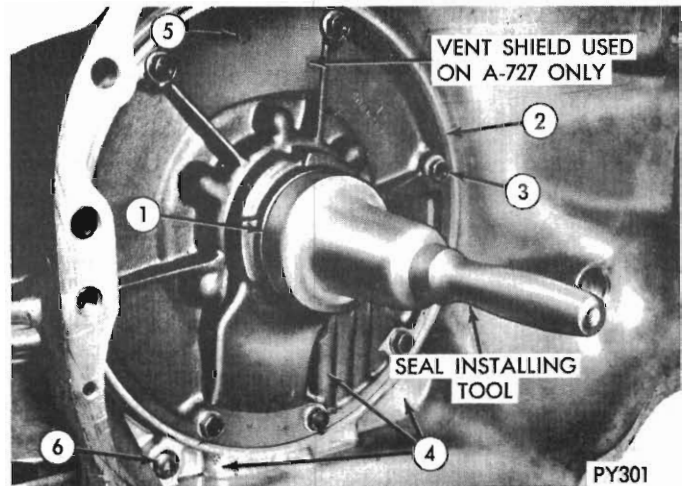
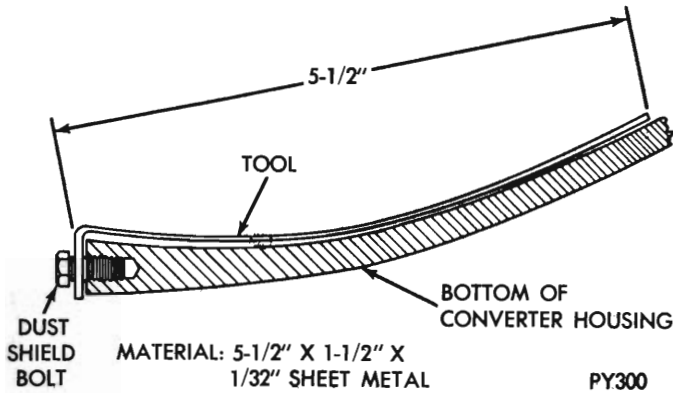

Fig. 106 - Transmission converter area
Fig. 106a - Leak locating test probe tool
(1) Remove converter housing dust shield.
(2) Position vehicle with front lower than back so that accumulated fluid in converter housing will drain out. Wipe bottom inside of converter housing as dry as possible. A solvent spray followed by compressed air drying is preferable.
(3) Fabricate and fasten test probe (*Fig. 106a*) securely to convenient dust shield bolt hole. Make certain converter is cleared by test probe. Tool must be clean and dry.
(4) Run engine as approximately 2,500 r.p.m. with transmission in neutral, for about 2 minutes. Transmission must be at operating temperature.
(5) Stop engine and carefully remove tool.
(6) If upper surface of test probe is dry, there is no converter leak. A path of fluid across probe indicates a converter leak. Oil leaking under the probe is coming from the transmission converter area (*Fig. 106*).
(7) Remove transmission and torque converter assembly from vehicle for further investigation. The fluid should be drained from the transmission and converter. Re-install converter drain plug and oil pan (with new gasket) at specified torque.
Possible sources of transmission converter area fluid leakage shown in (*Fig 106*) are: